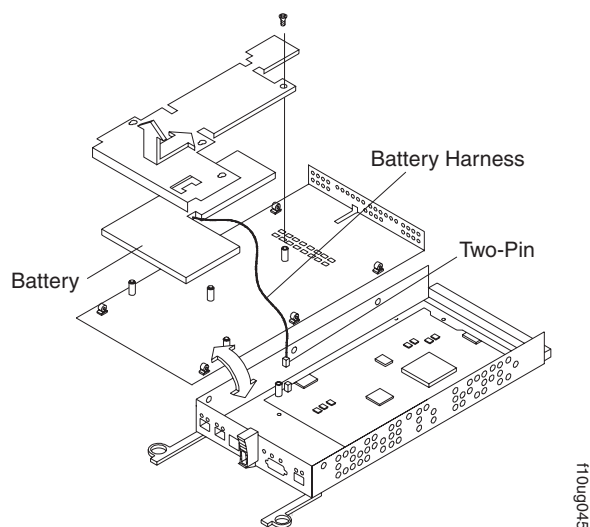

Figure 75. Removing the controller battery
9. Carefully flip over the RAID controller bottom panel. Disconnect the battery harness on the battery from the two-pin connector on the controller board, as shown in Figure 75 on page 107.